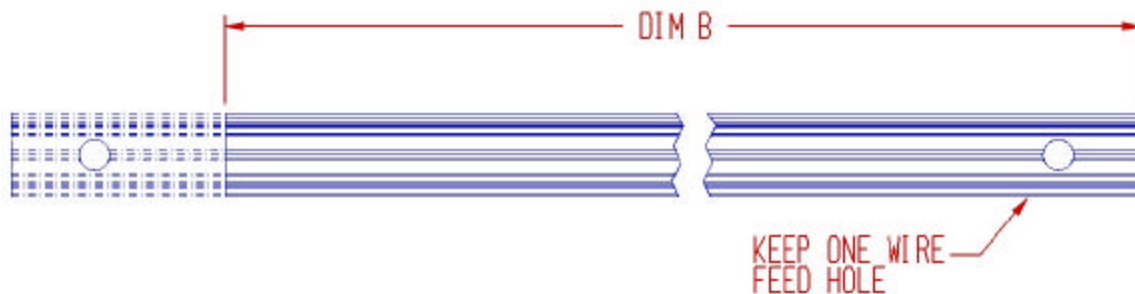

Figure 2b
- Place the Main Support on a horizontal surface in an appropriate work area. Measure and mark off the Dimension B onto the Main Support (see Figure 2b). Then make one cut through the cross-section of the Main Support using a tool appropriate for cutting aluminum. Cut only from one end, as it is important to retain a wiring feed-through hole in the Main Support section to be installed.
27. Identify, measure and record all spaces on the Main Support between Lamp Modules and the Power Junction Module (see Figure 2b).